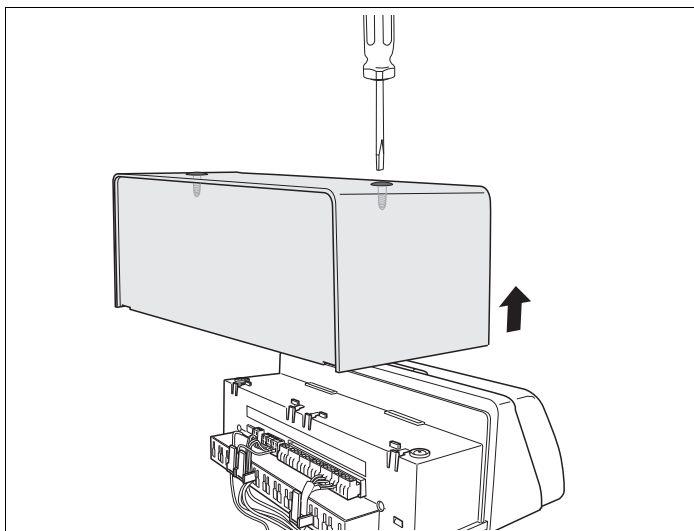

Fig. 5 Remove the cover
- Undo the 2 screws on the top of the cover (Fig. 5).